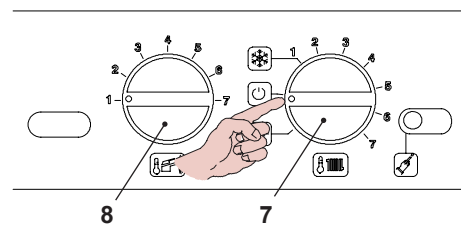

Figure 5.9
- To turn the boiler off set the function selector 7 to the position shown in the Figure 5.9.